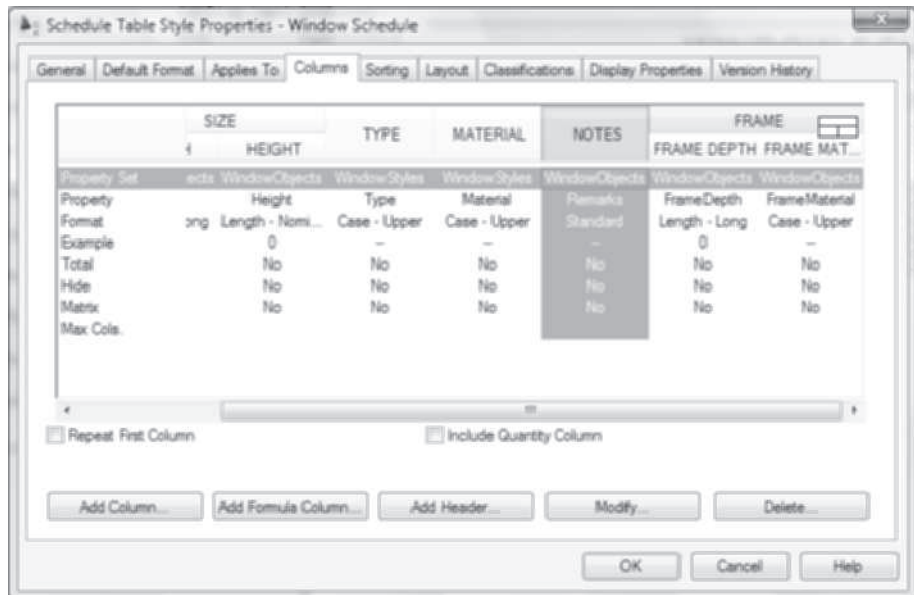

FIGURE 11.68 Moving a column within the schedule
19. Select the window schedule and choose **Edit Style** from the General panel of the Schedule Table tab. Select the **Columns** tab. Select the **Notes [Remarks]** heading and drag the heading to the right as shown in Figure 11.68. Click **OK** to dismiss the **Schedule Table Style Properties – Window Schedule** dialog box. The completed window schedule is shown in Figure 11.69.